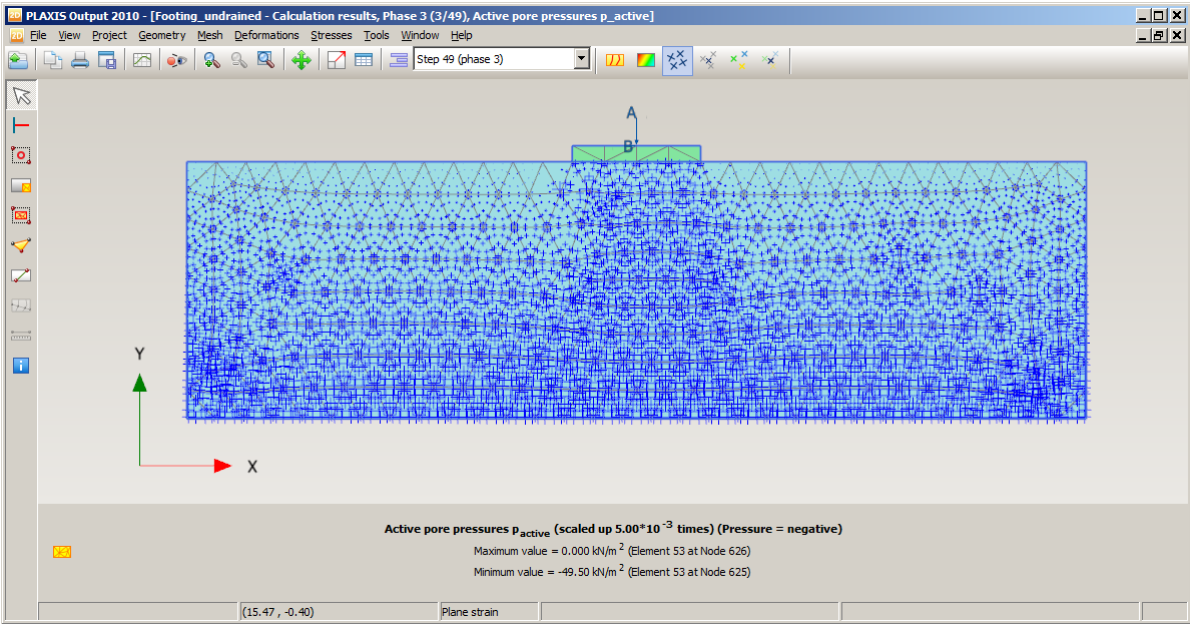

Figure 23: Active pore pressures at the end of phase 3
- Select from the *Stresses* menu the option *Pore pressures* and then p_{active} . The results are given in Figure 23.